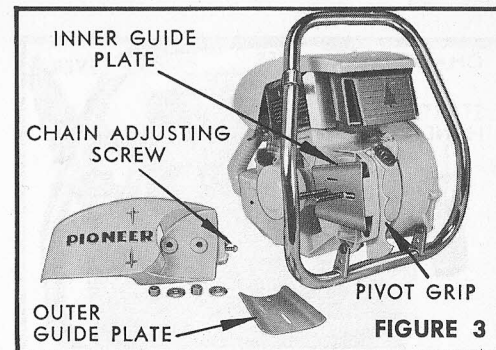

FIGURE 3
1. Remove the strut assembly and outer and inner guide plates from the motor unit (figure 3).
2. Secure the pivot grip to the motor unit (figure 3).